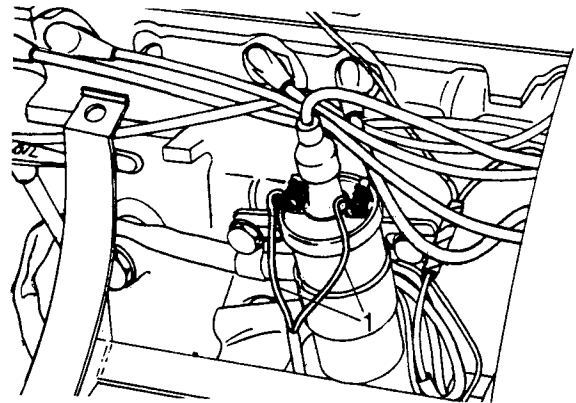

Fig B4.25
- (14) Refer to Fig B4.25. Connect the switch lead (1) at the ignition coil.